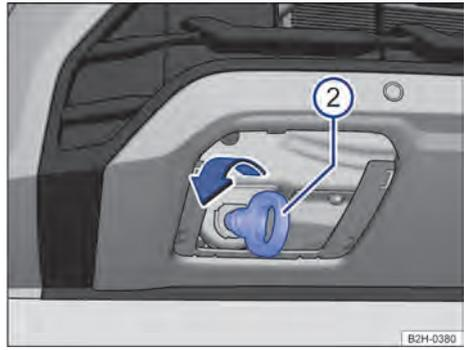

Fig. 179 On the right-hand side of the front bumper: screw in the towing eye.
① Towing eye.
1. Turn the towing eye as tightly as possible **in the direction of the arrow** on housing → Fig. 179 ②.
2. Use an appropriate object to tightly screw the towing eye into the housing → ①.